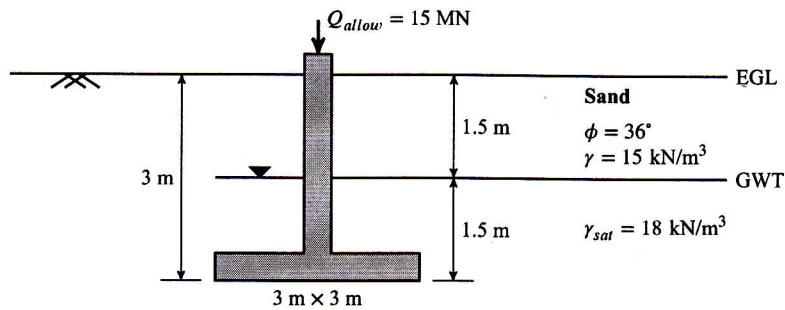

Figure 2
2. (a) An individual shallow square foundation having dimensions of 3 m × 3 m as shown in Fig. 2 is required to carry an allowable load of 15 MN. If the factor of safety is 3, will the foundation be able to carry that load? If not, what modifications do you suggest? Use general bearing capacity equation and Meyerhof's bearing capacity factors. [10]
- (b) Calculate the immediate settlement of the foundation shown in Fig. 2 using theory of elasticity. Given that, $E_s = 60000 \text{ kN/m}^2$, and $\mu_s = 0.3$. Assume the foundation to be rigid. If the allowable settlement is 25 mm, do you think the foundation meets this requirement? If not, what changes do you suggest so that the settlement does not exceed 25 mm? [10]